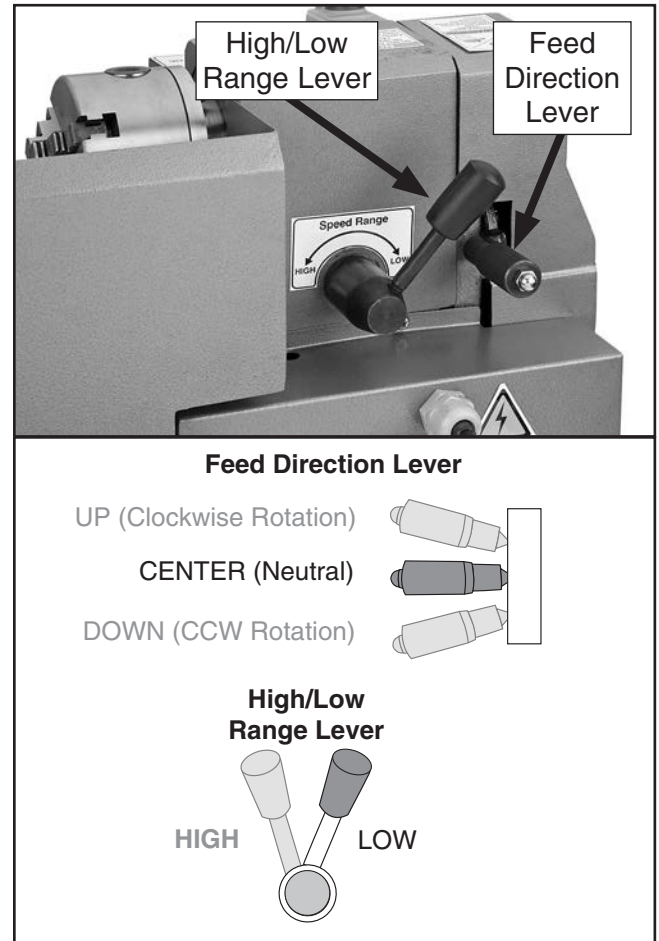

Figure 16. Lever settings.
2. Shift high/low range lever on back of lathe to LOW, and feed direction lever to neutral (see Figure 16).